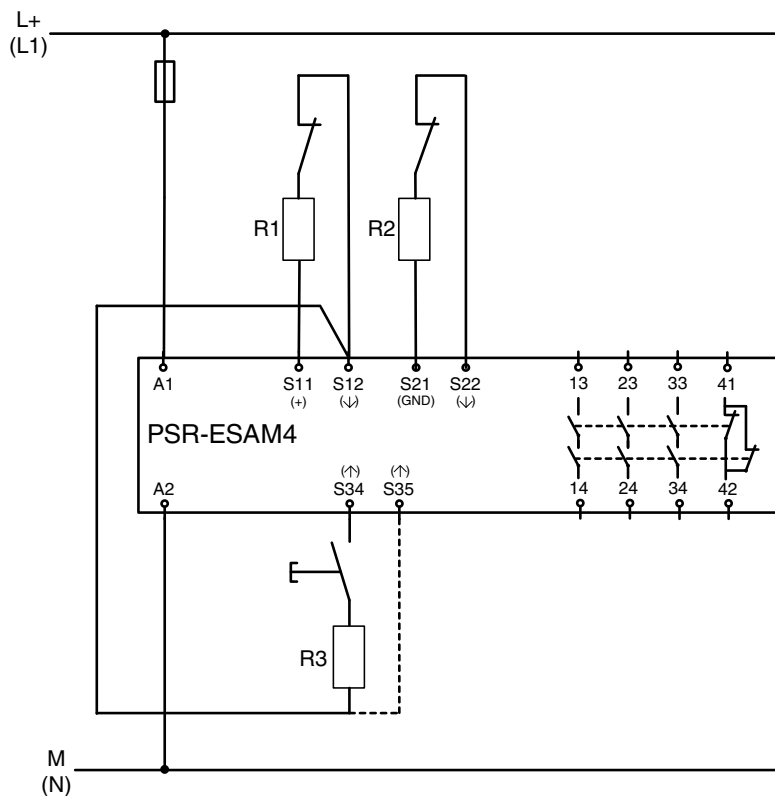

Figure 3-2 Example for calculating the cable lengths
**Example** For an emergency stop application with the PSR-ESAM4 (see Figure 3-2), the following calculations can be made: